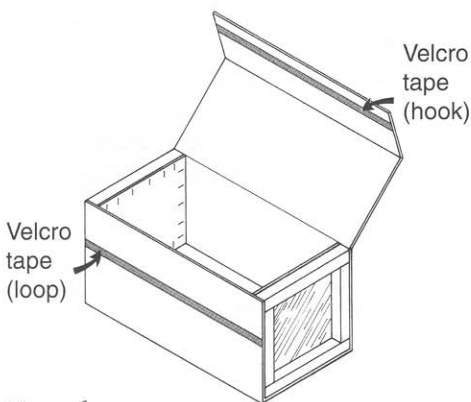

Figure 6.
12. To secure the lid and fastening flap during transport, a length of 19 mm or 25 mm wide (3/4" or 1") self-adhesive Velcro is used. Apply the hook part of the Velcro tape to the inside face of the fastening flap and the loop part of the tape to the main body of the container (Figure 6). The tape should run the entire width of the fastening flap. For added strength and an improved seal, Velcro may also be used along the top side of the end cap frame.